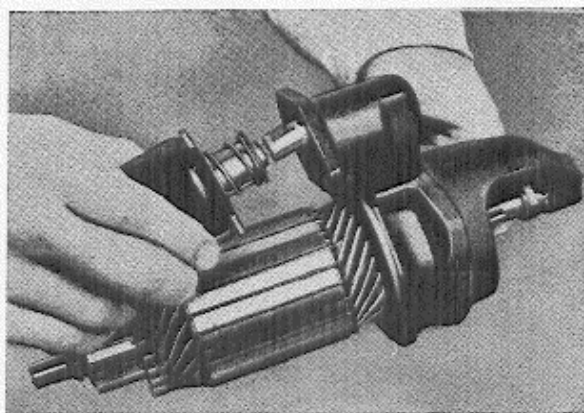

Fig. 46.
5. Release the control solenoid from the end head by removing the two attaching screws and then lifting the control solenoid upwards and out, Fig. 46.